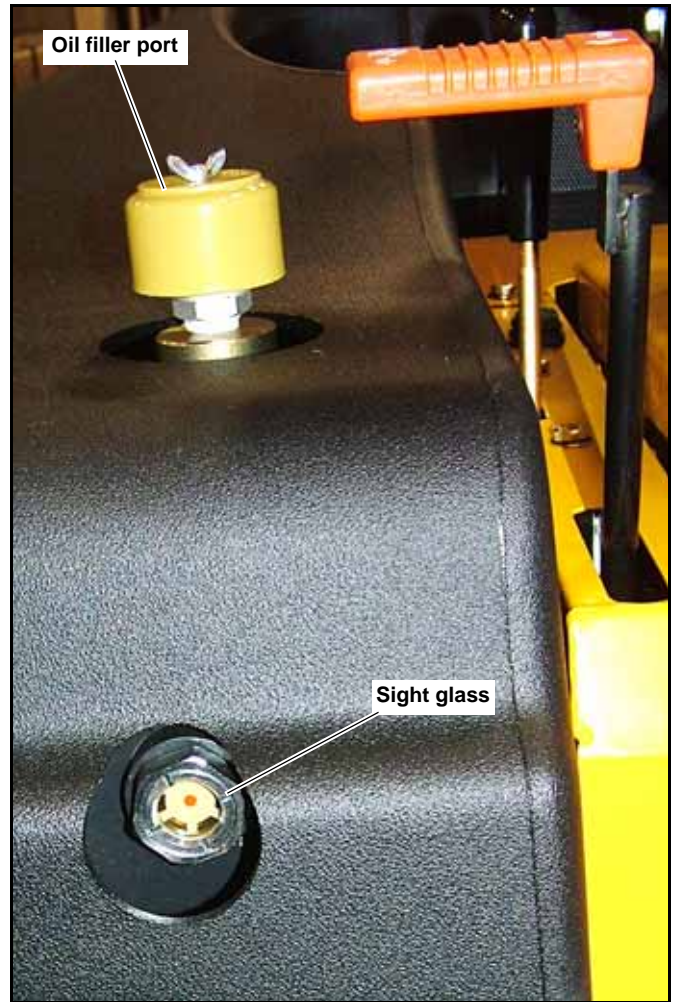

Figure 4-26
1. With the tractor standing level, the cutting units lowered and the engine off, check the oil level in the sight glass. Figure 4-26
VG46 hydraulic oil, through the oil filler port. Do not fill above the 2/3 level. Figure 4-26